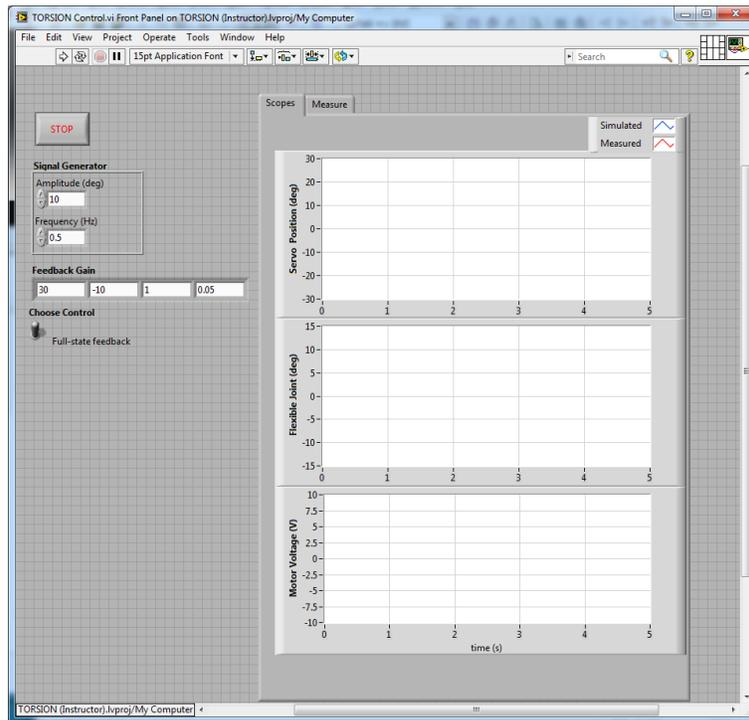

Figure 3.4: VI used to run the LQR control on 1 DOF Torsion system
The *TORSION Control* VI shown in Figure 3.4 is used to run the state-feedback control on the Quanser Rotary 1 DOF Torsion system. The VI uses **Quanser Rapid Control Prototyping Toolkit®** to interface with the DC motor and sensors of the system. The feedback developed in Section 3.4.1 is implemented in the VI using a *Gain* block.
5. In the LabVIEW Project, open the *TORSION Control.vi* shown in Figure 3.4.